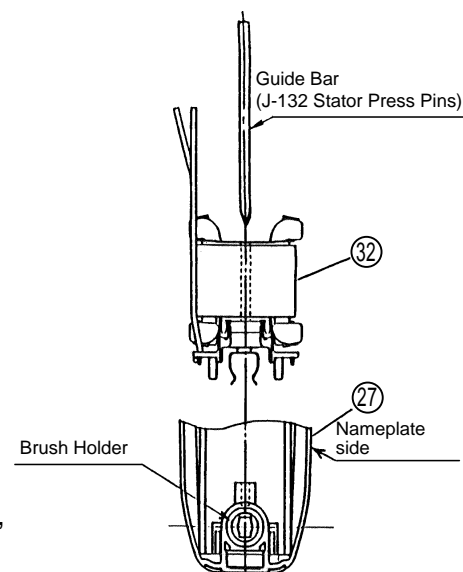

Fig. 13
(4) Reassemble the Stator (32):
As illustrated in Fig. 13, insert a guide bar (the J-132 Stator Press Pins [Special Repair Tool, Code No. 970911] are recommended) to ensure that the screw holes of the Stator (32) and Housing Ass'y (27) are properly aligned, and press fit the Stator (32) into the Housing Ass'y (27). When press fitting of the Stator (32) is completed, connection between the Stator (32) and the Brush Holders (27) is automatically accomplished.
(5) Lubrication: